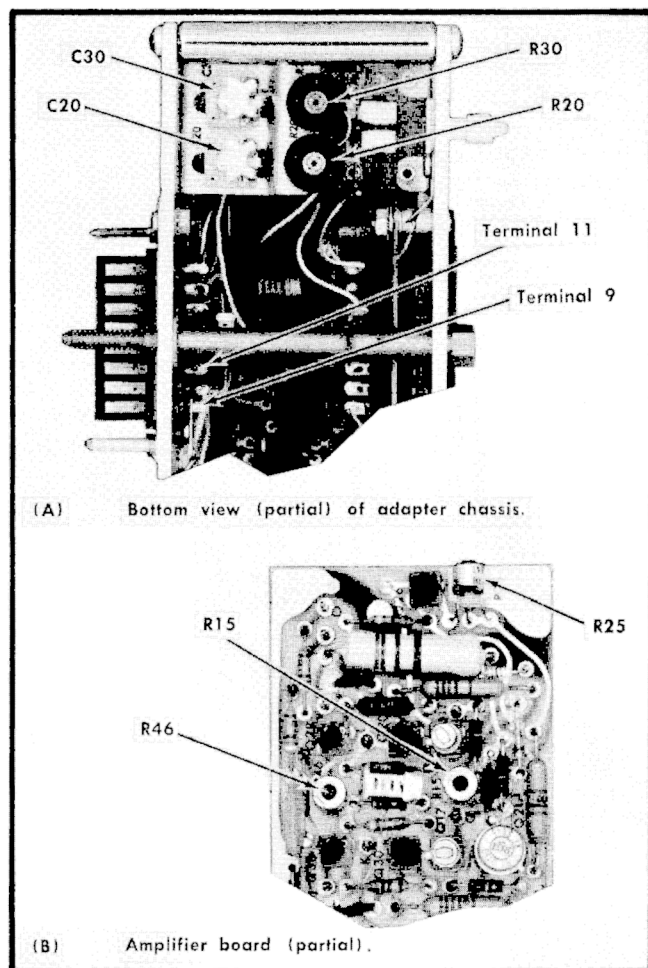

Fig. 11. Location of test points and adjustments for steps 2, 3 and 5.
a. The preliminary procedure and Oscilloscope control settings apply. Locations of check points and adjustments are shown in Fig. 11.
d. Connect the non-loading DC voltmeter across terminals 9 and 11 of the Adapter-to-Oscilloscope plug. See Fig. 11 (A).
f. ADJUST—DC BAL, R15, Fig. 11 (B), until the voltmeter reads $0\text{ V} \pm 50\text{ mV}$.
d, e, f (alternate). Using a shorting strap, connect the Adapter-to-Oscilloscope terminals 9 and 11 together. Obtain a trace on the Oscilloscope and note its vertical position. (Its position can be marked with a grease pencil for reference purposes.) Remove the shorting strap. Adjust DC BAL, R15, (Fig. 11) until the trace is positioned to the just-determined reference position.
i. ADJUST—DC LEVEL, R25, Fig. 11 (B), for $+49\text{ V} \pm 2.0\text{ V}$ output.
a. The preliminary procedure and Oscilloscope control settings apply. Location of the adjustment is shown in Fig. 11 (B).
f. ADJUST—GAIN, R46, Fig. 11 (B), to provide $2\text{ cm} \pm 0.6\text{ mm}$ between the center of the traces.
- The preliminary procedure and Oscilloscope control settings apply. Locations of adjustments are shown in Fig. 11 (A). Typical waveforms are shown in Fig. 12.
- ADJUST—R20, C20, R30 and C30, Fig. 11 (A), for optimum squareness and flatness at the top left corner of the waveform. 0.3 mm (approximately 1 graticule line width) or less rounding, overshoot or tilt. See Fig. 12 (A), (B) and (C). (Slower sweep rates may be used in addition to .05 μ Sec/CM to aid in observation of adjustment effects.)